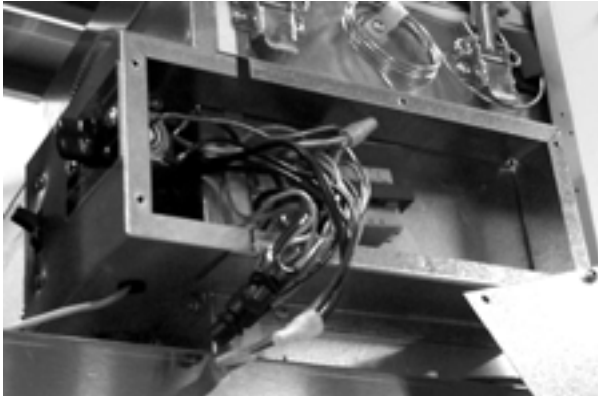
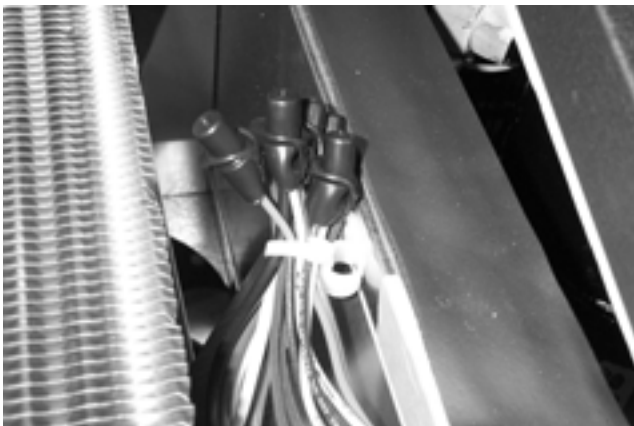

Figure 4-56
Figure 4-57
3. Remove the wiring box cover on the front of the evaporator housing on 2 and 3 section cabinets (Figure 4-56). Wiring connections for 1 section cabinets are located inside evaporator housing (Figure 4-57).